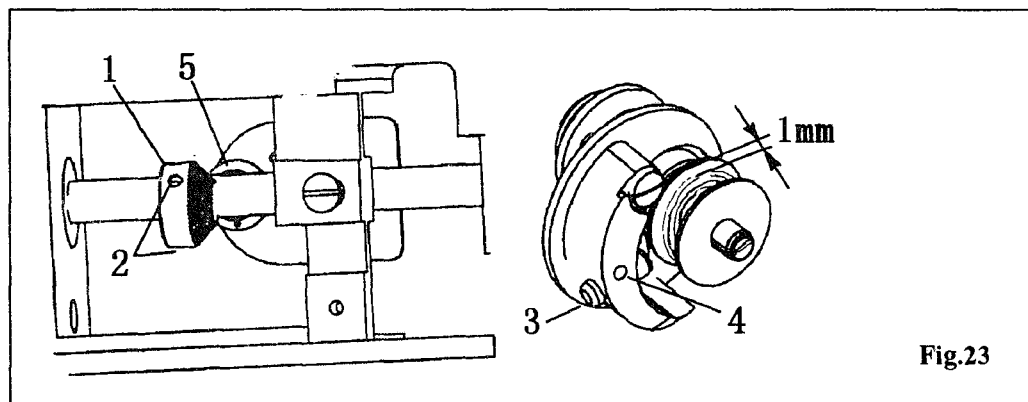

Fig.23
12) BOBBIN WINDER (Fig.23)
① When the bobbin winder is activated the spindle should also be activated: When the bobbin winder is deactivated the rubbing wheel 5 should not stand next to the drive wheel
② The bobbin winder should switch itself off when the filled quantity is still 1mm from the edge of the bobbin.